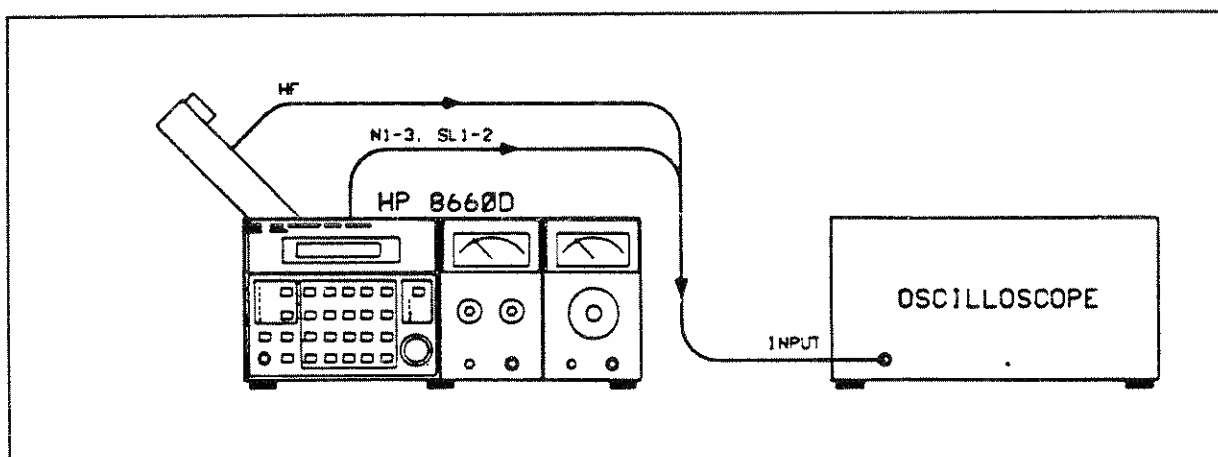

Figure 4-3. Phase Locked Loop Test Setup
1. Set up the test equipment as shown in Figure 4-3.
*All of the test points except for the HF loop are located on the Low Frequency motherboard. Access to these test points is obtained by raising the A4 assembly and locking it in the up position (see Figure 4-3). Figure 5-23 shows the approximate location of all test points. The reference designators of the test points are etched on the pc board. Access to TP3 and TP8 is difficult because they are under the A3A1 and A3A2 assemblies. TP3 can be reached by using a piece of solid wire to probe down into the test point. TP8 is connected to XA12-1 pin 4, which is accessible.*